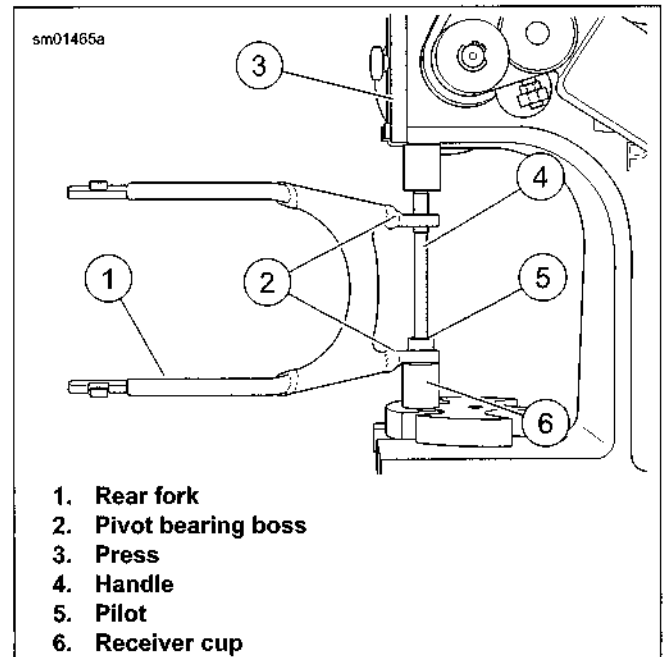

Figure 2-100. Removing Rear Fork Pivot Bearings
1. See Figure 2-100. With recessed end of cup facing up, place receiver cup from BEARING REMOVER/INSTALLER TOOL (Part No. HD-46281) on press bed.
2. Place rear fork pivot bearing boss (2) over cup.
3. Slide pilot (5) through bearing and into receiver cup.
4. Insert handle (4) through other rear fork pivot bearing boss and bearing, down into pilot.